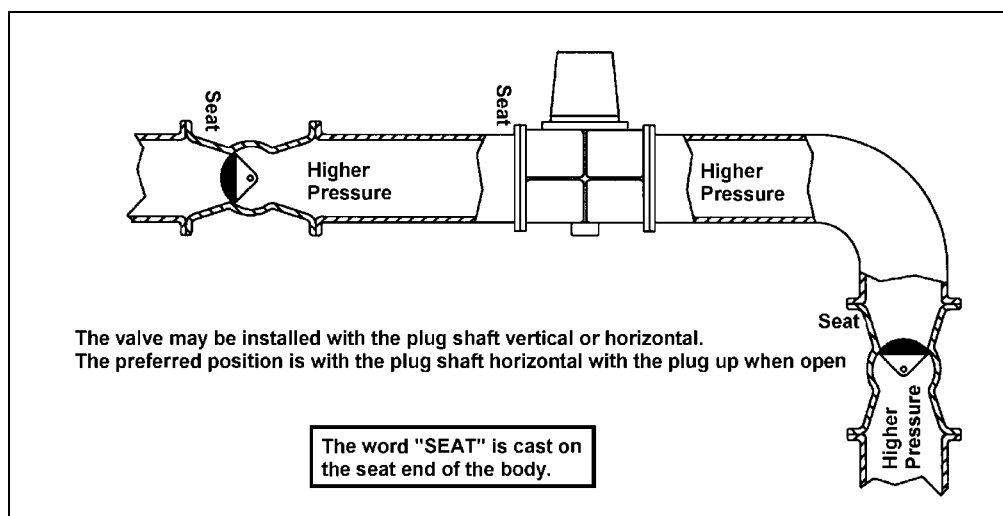

Figure 2 — Liquids and Gases
2. Install the valve as shown in Figure 2.